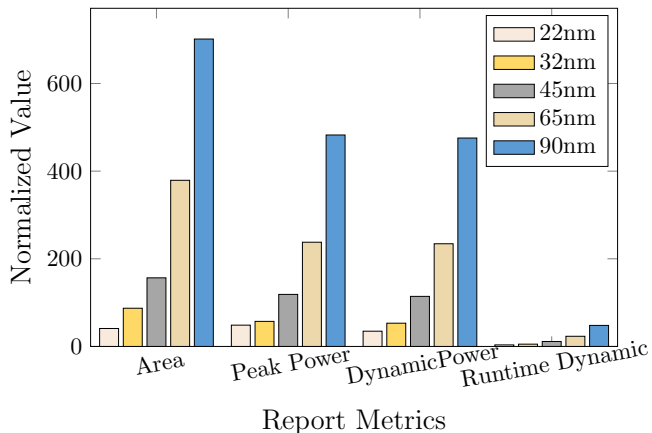

Figure 9: Heterogeneous Chiplet Power/Area
- Reduces peak temp by 1.7 C (Fig. 9)